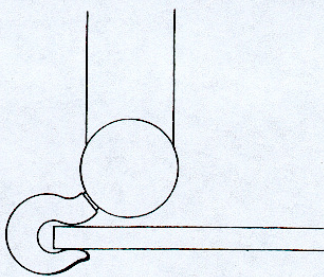

fig.92
- **NEVER** use the tip of the hook as a support base for the load (fig.92).